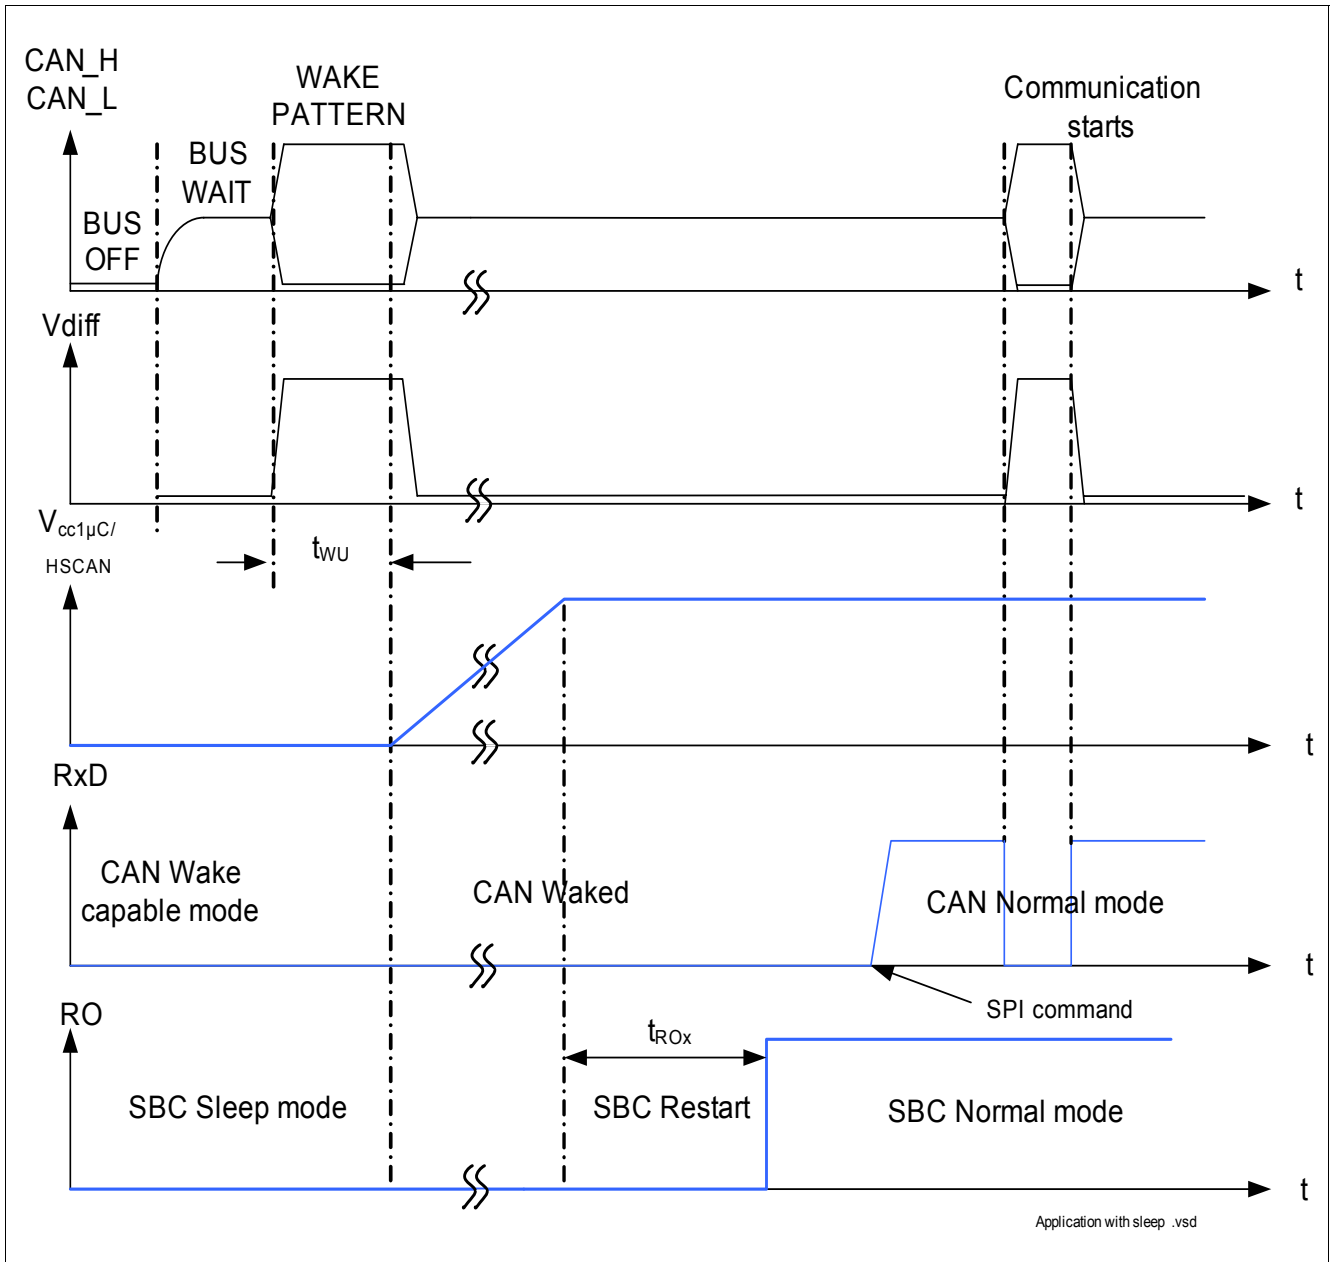

Figure 11 Timing during Transition from Sleep to Normal Mode
Refer to Figure 11 for a description of the matching of the transceiver modes with the SBC mode.
Wake-up is possible via a CAN message (filtering time $t > t_{wU}$), it automatically transfers the SBC into the SBC Restart Mode and from there to Normal Mode the RxD pins in set to LOW, see Figure 11. The microcontroller is able to detect the low signal on RxD and to read the wake source out of the "Wake Register Interrupt" register (000) via SPI. No Interrupt is generated when coming out of Sleep Mode.
In SBC Sleep Mode, a wake-up on the CAN cell will set the SBC to Restart Mode automatically if the CAN Wake Capable Mode of the SBC is selected via SPI. Figure 11 shows the typical timing.